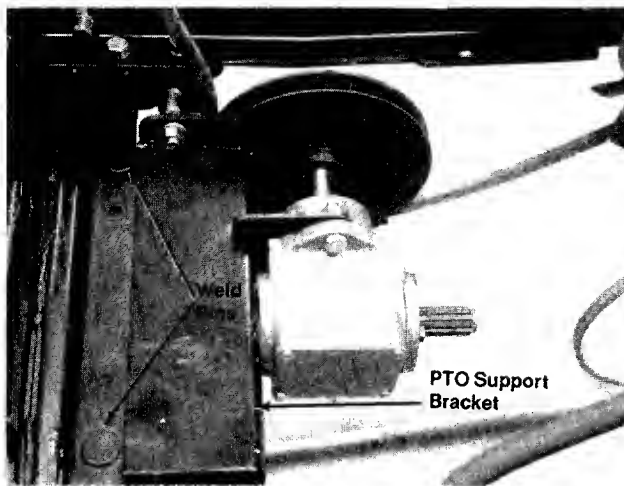

FIGURE 18
1. Place the PTO assembly in back of the front axle and hook the top slotted hole on the PTO support bracket over the weld pins on the tractor. Tighten nuts finger tight. See figure 18.
3. Push the belt keepers on the V-idler the direction of the arrows shown in figure 18 and rotate either direction.